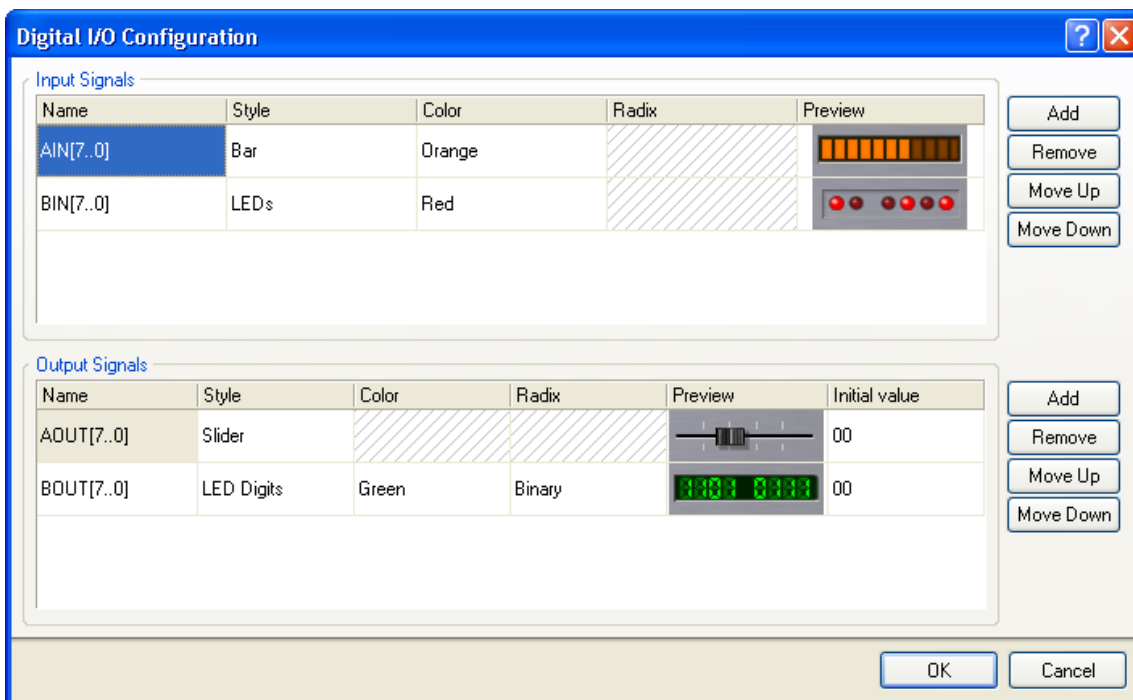

Figure 8. Configuration of the Digital IO instrument
7. Click once in the **Style** column to the right of the signal `BOUT[7..0]` to expose the arrow and select the **LED Digits** style. To dialog should now appear as it does in Figure 8